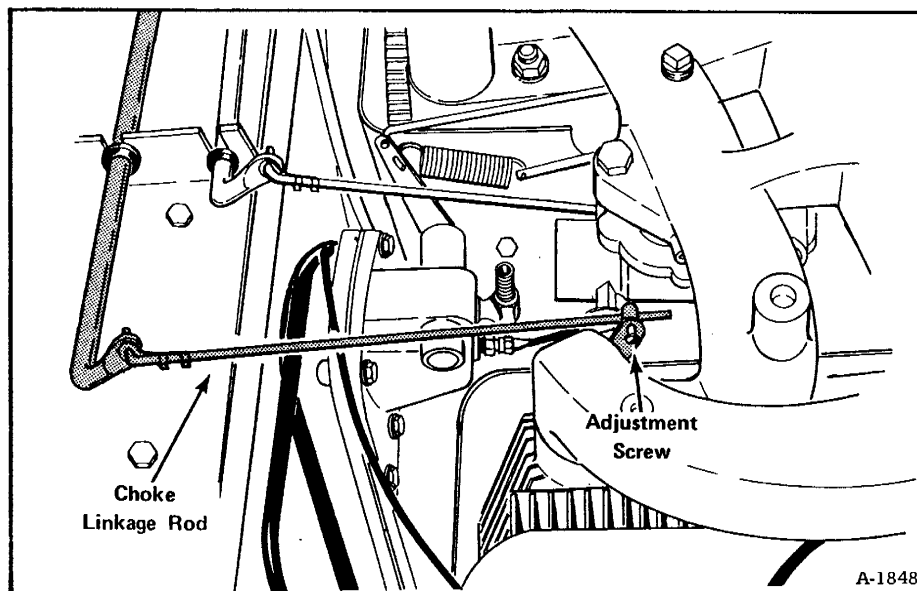

Fig. 1-18 Choke Adjustment
- (1) Loosen the adjustment screw at the engine (Fig. 1-18).
- (2) Hold the choke control knob about $1/8''$ (3 mm) from full-choke position.
- (3) Hold the choke on the carburetor completely closed, then tighten the screw.